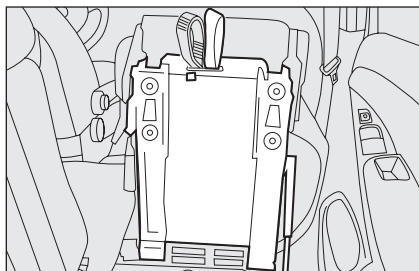

fig. 114
*Never pull the ribbons **B** or **C**-fig. 114 with the seats in load position because this would make the seats slide vertically and prevent folding.*